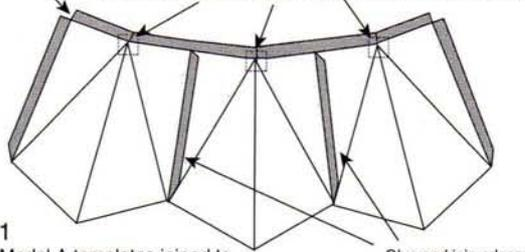

FIG 1
both sides of each so you can glue them together. Also leave an edge of about 10 mm at the top. These edges are the shaded parts in Figure 1. The top edge is for connecting to the other half and the end parts are for hiding the leading and trailing edge sticks.
4. In order to locate the starting points on the Tyvek for the lines going from the center to the edge, push a needle through the three points indicated in Figure 1 to make a mark in the Tyvek.
10. Figure 3 shows the position of the spine and the spars on the back of the kite. The two halves will be joined by gluing the edges pointed out in Figure 1. Place the spine on this joining area. The gray areas in the drawings are flat and the white areas form the air stream channels. Put the spine on the back of the kite, leaving 10 mm extending on each end. On the spine, mark accurately the position of the four spars.